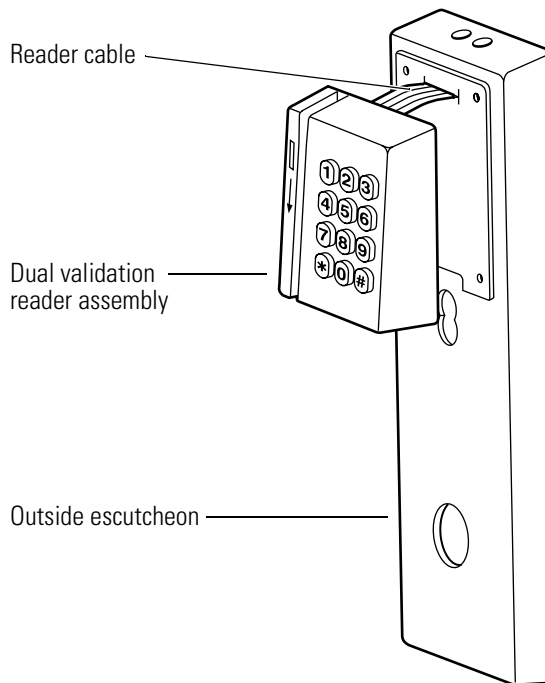

Figure 9.22 Removing the dual validation reader assembly from the outside escutcheon
3. Remove the dual validation reader assembly from the outside escutcheon, sliding the reader cable through the slot in the escutcheon. See Figure 9.22.